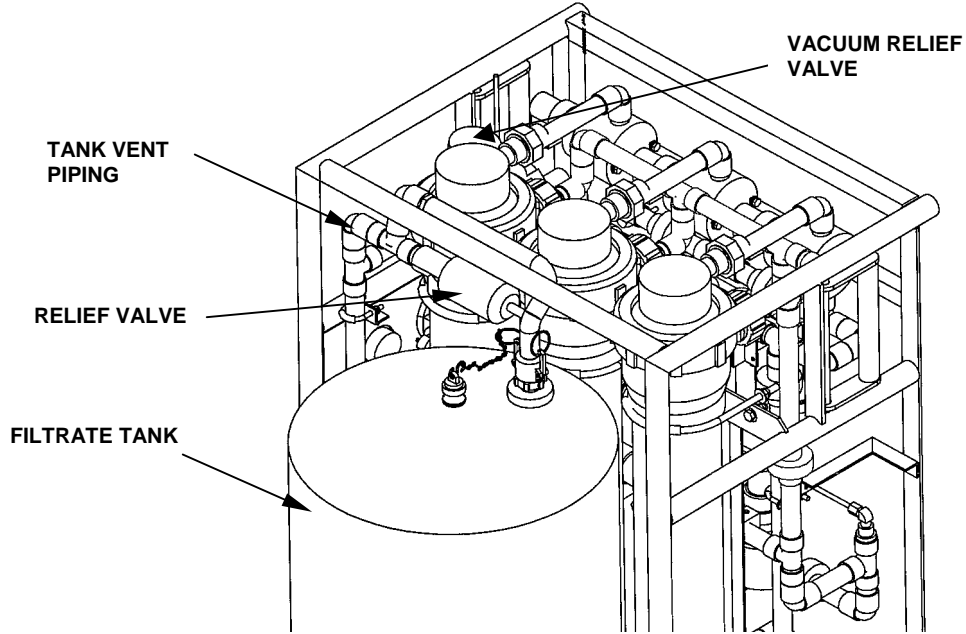

Figure 9. Pressure Relief Valve Location.
1. Unthread the pressure relief valve from the tank vent piping. See Figure 9.
1. Vacuum relief valve is located on the tank vent piping. See Figure 9.
1. Refer to Figure 9 for this procedure section.